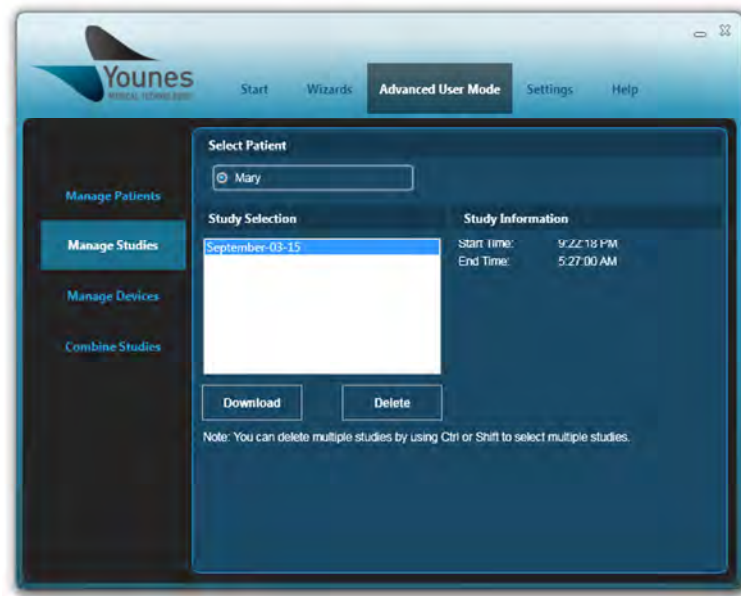

Figure 88 – Windows PC Prodigy Application Download Study Screen (Manage Studies)
5. All patients on the device will be listed, as well as all studies associated with the selected patient, as shown in Figure 88. To download a study, select the “Download” button. If more than one study exists for a single patient, select the study you are interested in downloading before selecting “Download.”